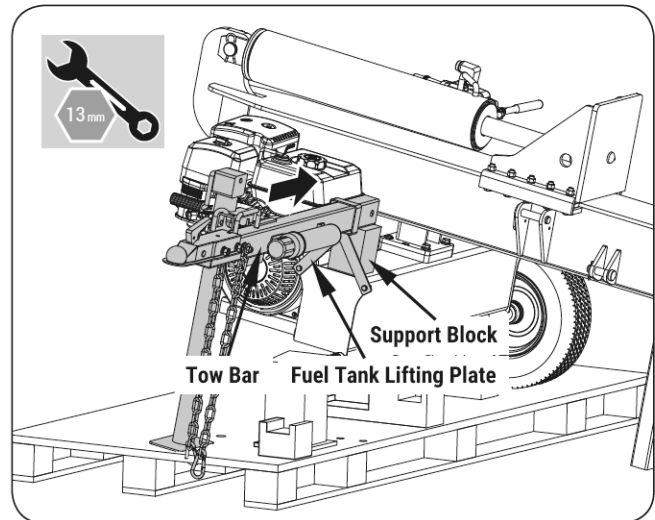

Figure 3k
15. Repeat steps 4-6 on the opposite side of the fuel tank. Securely attach the fuel tank lifting plate and elevate the height of the fuel tank. (See **Figure 3k**.)